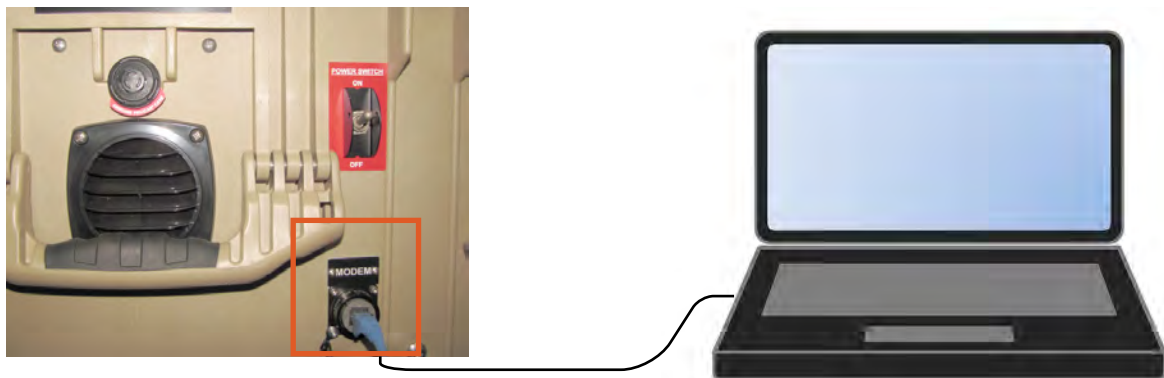

Figure 6. RMK connected to PC
1. Connect the PRO-Verter to a PC with a straight-through CAT5 Ethernet cable between the external MODEM or TECH port and an Ethernet port on a PC (lower right box in Figure 6). Green lights on both ends of the cable indicate a good connection. (If the connection is not good, use a crossover cable to connect the PC to the PRO-Verter.)